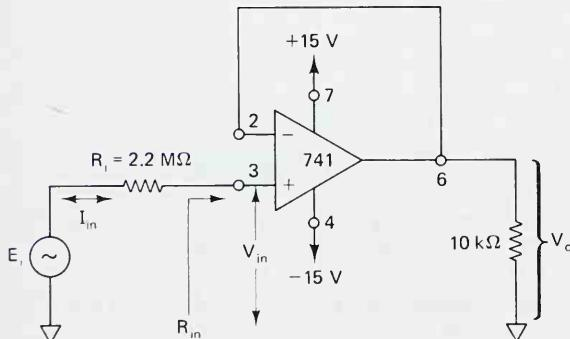

FIGURE LE3-3
- (a) Refer to Fig. LE3-3 to measure R_{in} . Adjust E_i for 5.00 V rms at 100 Hz (sine wave). Pinouts are for an 8-pin minidip package. Do *not* measure V_{in} because any meter will load the circuit down.